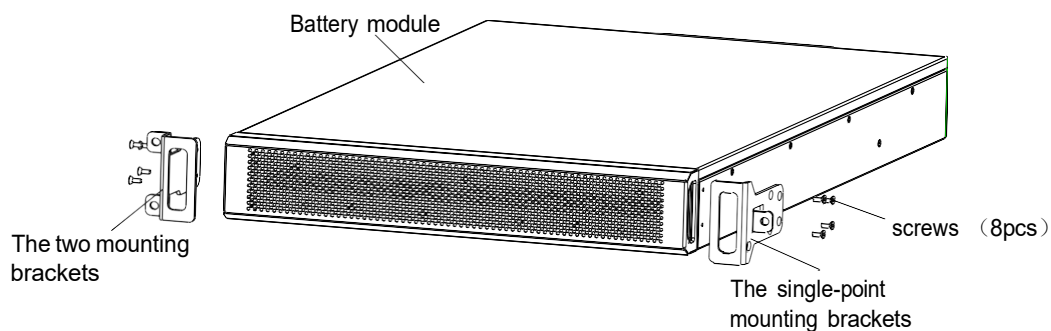

Figure 2-26 Mounting brackets for battery module
- Use the M4 cross recessed countersunk head screws (8 pieces) to fix the two mounting ears (accessory) to the two sides of the front panel of the battery module. The mounting ears 1 (one hole is fixed) and the mounting ears 2 (two holes fixed) are fixed. The location of the battery pack is shown in Figure 2-26.